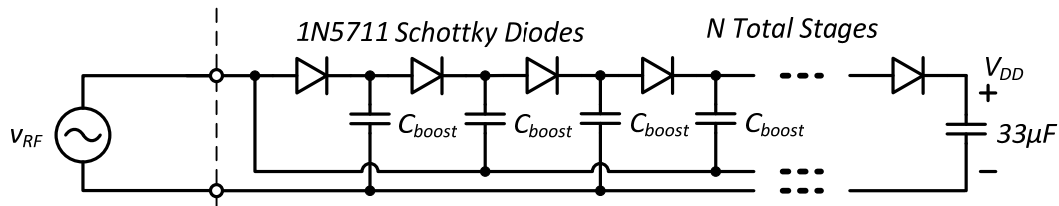

Figure 5. Multi-stage voltage-boosting rectifier circuit schematic.
- L3.3** Using the V_{ON} measured in L3.1, calculate the minimum number of stages required to generate the value of V_{DD} specified in Table 1 with the multi-stage rectifier shown in Figure 5. Calculate the expected V_{DD} for this number of stages, again using V_{ON} from L3.1. Assume v_{RF} is a sine wave with 1V_{ppk}. Show your results from L3.1-L3.3 to the GSI.
- L3.4** Using the 1n5711 diodes in your kit, build the rectifier shown in Figure 5 with the number of stages you calculated in L3.3. It is recommended you use the small breadboard found in your labkit for this, and minimize the lengths of wires. Measure the steady-state output voltage when a 20MHz, 1V_{ppk} sine wave is applied to the input. Look at V_{DD} on an oscilloscope and measure the peak-to-peak ripple voltage. Finally, measure the time it takes to charge the capacitor from 0V to 1.7V. This can be done by first discharging the 33μF capacitor with the signal generator off, then enabling the function generator while triggering on V_{DD} . Try different time/div settings on the oscilloscope to capture the entire transient. Have the GSI check you off on this part.